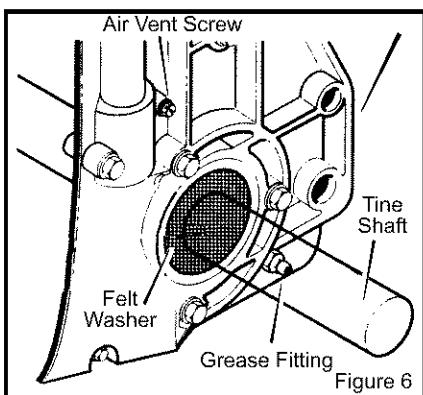

Figure 6
Every 25 hours and/or at the beginning of each season, make sure the gear box is filled with lubricant (see Figure 6). Tubes of gear lubricant are available from most automotive supply stores. Use portable tool grease such as Lubriplate 630AA (Product No. 06787, 1-3/4 oz. tube) or Lubriplate GR-132 (Product No. 15892, 10 oz. tube).
After cleaning and before storage, apply oil to the **tine shaft** (see Figure 6).
2. Remove the **air vent screw** (see Figure 6).
5. Check the condition of the **felt washer** (see Figure 6). Replace the **felt washer** if it is damaged (see the Repair Parts section in this manual).